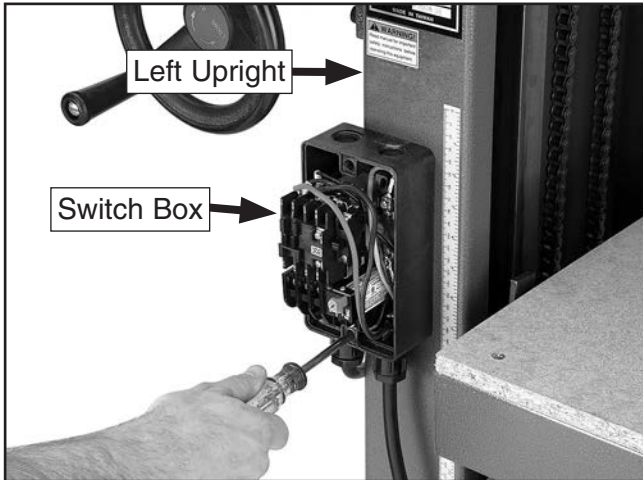

Figure 25. Switch box mounting.
20. Remove the plastic screws that secure the switch box cover, then use the pre-installed screws to attach the switch box to the left upright, as shown in **Figure 25**.